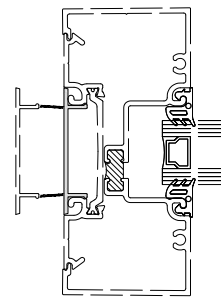

FIG. 1
- Install **P4563 Pocket Filler** at jambs at each side. See **FIG. 1**